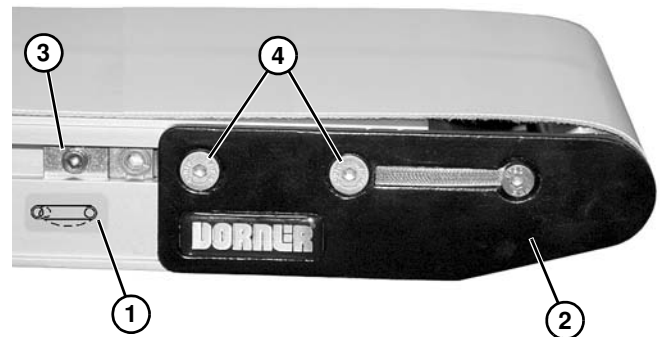

Figure 43
5. On tension end of the conveyor, identified with  a label (**Figure 43, item 1**), push in head plate assembly (**Figure 43, item 2**):
- a. On both sides of conveyor, loosen and move cam tracking assemblies (**Figure 43, item 3**) (if equipped) away from head plates.
- b. Loosen fastening screws (**Figure 43, item 4**) and push head plate assembly inward.